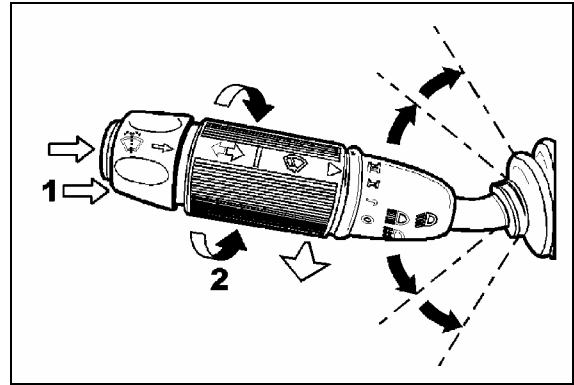

FIGURE 32: MULTIFUNCTION LEVER
Turn the multifunction lever forward to activate lower windshield wipers (item 2, fig. 32). The first position operates the wipers at low speed and the second position operates the wipers at high speed. Turning the lever backwards will operate the wipers in the intermittent mode.
To activate the upper windshield washer pump, depress and hold the rocker switch on dashboard L.H. side (item 2, fig. 32). The upper wipers will come on automatically and will shut off a few seconds after releasing the rocker switch.
The lower windshield washer pump is electrically operated and is controlled by a washer control ring on the multifunction lever (item 1, fig. 32).